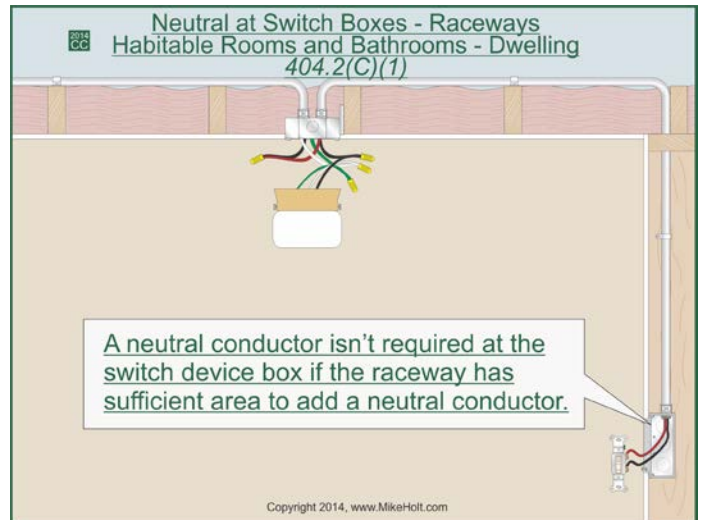

Figure 404-6
- (1) Where the conductors for switches enter the device box through a raceway that has sufficient cross-sectional area to accommodate a neutral conductor. Figure 404-6